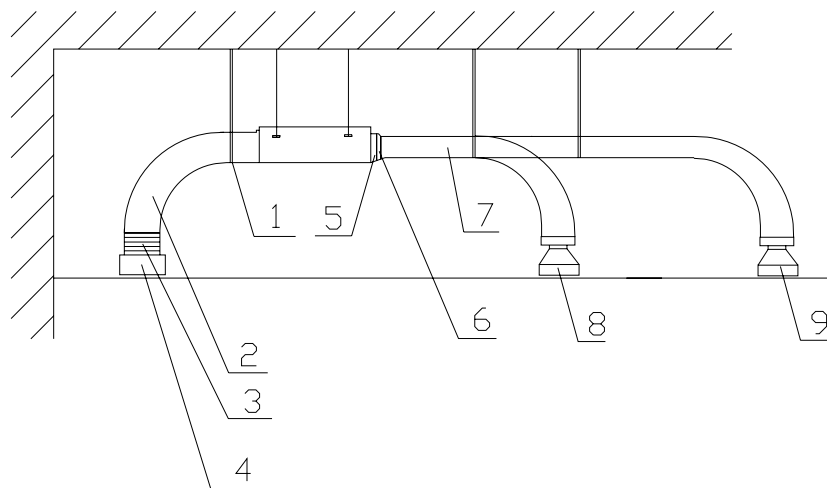

Fig.1.1.12
- ◆ Installation of Round Air Duct as shown in Fig.1.1.12